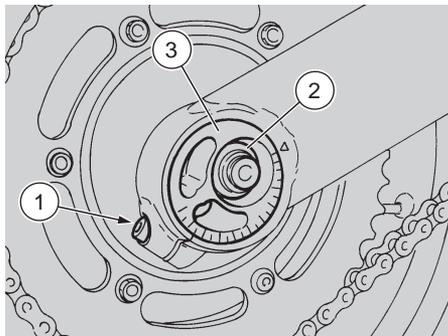
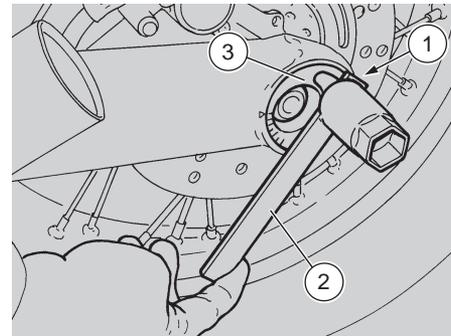

Fig. 34
Fig. 35
- ◆ Loosen the screws (1-Fig. 34, 1-Fig. 35).
- ◆ Loosen the fastening nut of the rear wheel pin (2-Fig. 34).
- ◆ Using the spanner (2-Fig. 35) provided in the tool kit, rotate the adjusters (3-Fig. 34, 3-Fig. 35), until you obtain the prescribed tension.
- ◆ Once the operation has been completed, tighten the fastening nut of the rear wheel pin (2-Fig. 34).
- ◆ Tighten the screws (1-Fig. 34, 1-Fig. 35).